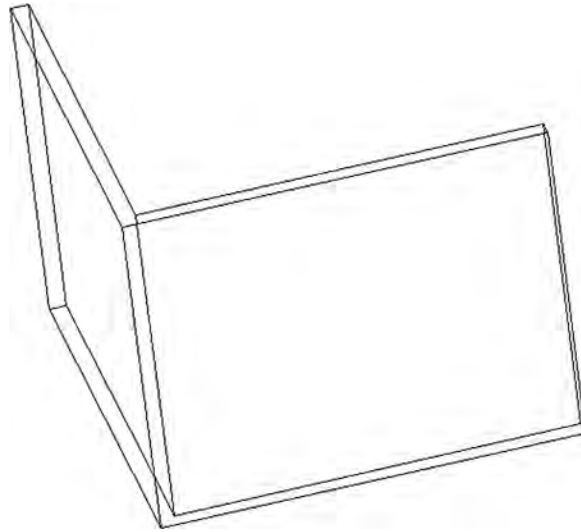

FIGURE 23.12
Step 2. Use the union command to fuse the walls together. Figure 23.12 shows another, slightly rotated, view of the walls in wireframe after the application of union. Notice where they intersect; they are clearly in one piece, not two separate panels.